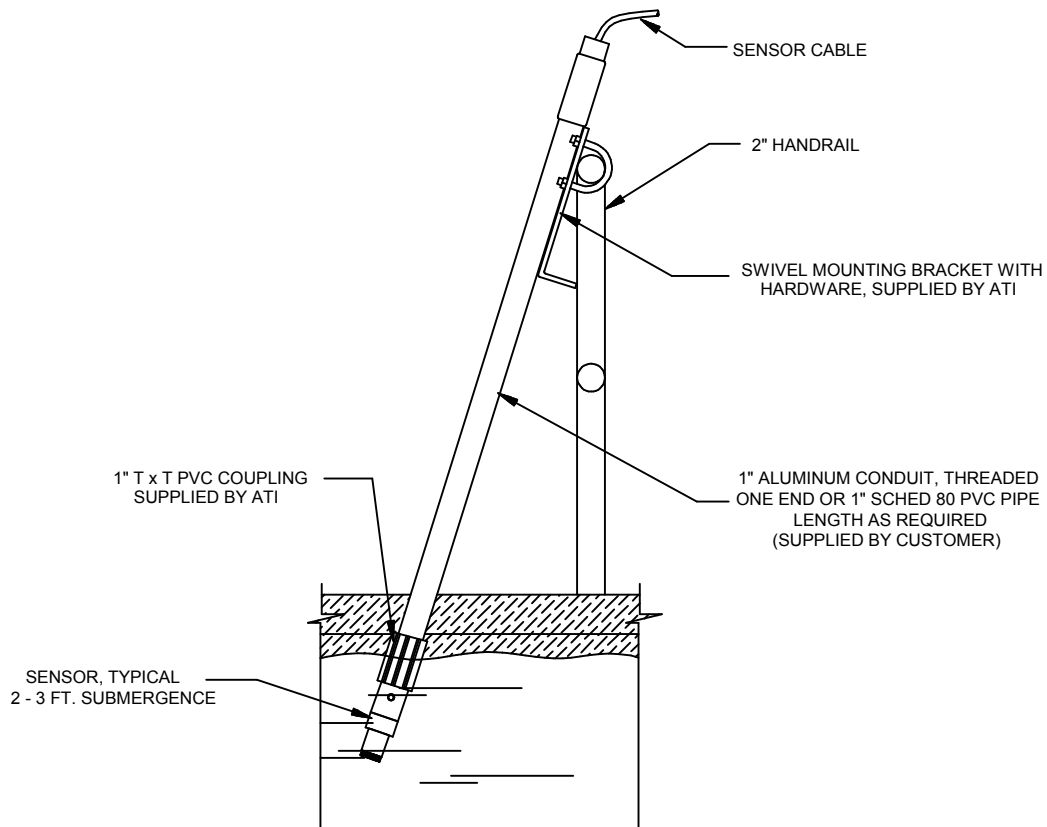

Figure 11 - Submersible Sensor Mounting
Submersible sensors are mounted to a 1" pipe using a standard 1" PVC thread by thread pipe coupling. The mounting pipe can be secured to standard 1½" pipe rail using a mounting bracket kit available from ATI (part number 00-0628) as shown in Figure 11 - Submersible Sensor Mounting
1. Use wiring practices that conform to all national, state and local electrical codes. For proper safety as well as stable measuring performance, it is important that the earth ground connection be made to a solid ground point from terminal 15 (Figure 11).